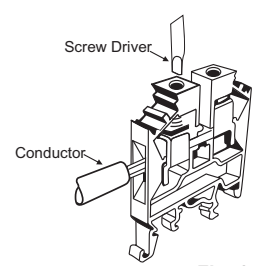

Fig. 1
- Simple connection and disconnection of wires with the aid of an ordinary screw driver (Fig.1)